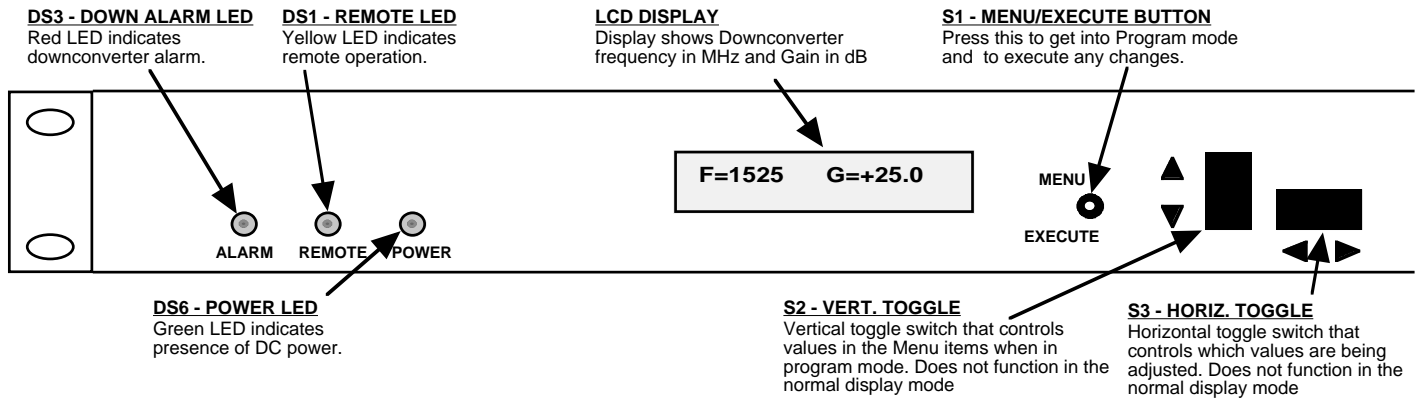

FIGURE 2.3 2016-04 Front Panel Controls and Indicators
Figure 2.3 shows the controls and indicators located on the front panel.
6. Be sure DS6 (green, DC Power) is on and DS3 (red, Alarm) is off (Figure 2.3).
Alarm indications appear on the LEDs (see figure 2.3).